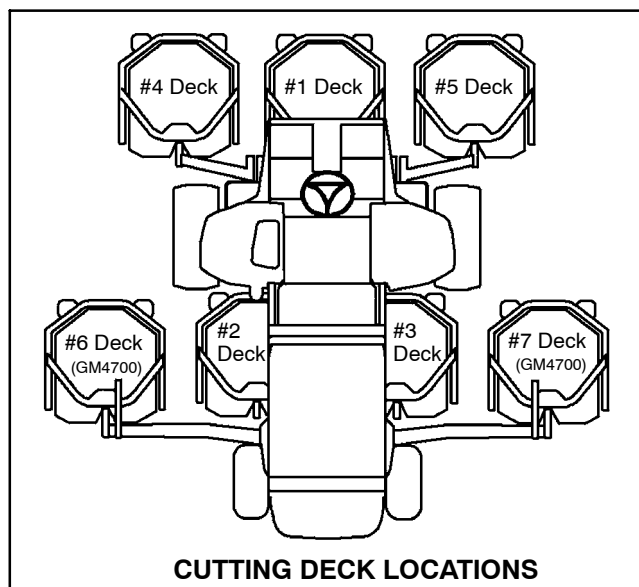
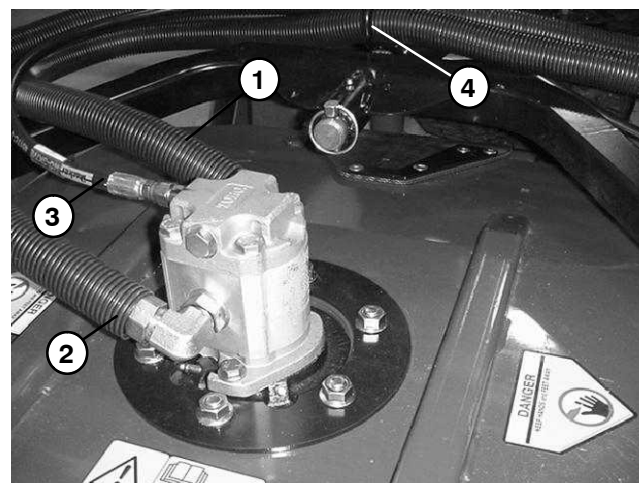

Figure 4
Figure 5
3. If lift arm for either deck #4 or #5 (Fig. 4) is to be removed, tag and remove hydraulic hoses from the deck motor (Fig. 5). Slide hoses out of the hose retaining loop on the lift arm.
5. If lift arm for either deck #4 or #5 was removed, slide hydraulic hoses through the hose retaining loop on the lift arm and install hoses to the deck motor (Fig. 5). Make sure that deck is lowered to the ground before tightening hoses.